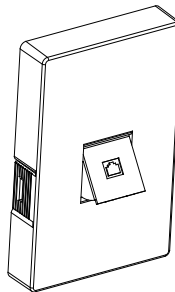

Figure C-3 Keypad protection cover
- ✧ When the keypad of VFDs in T5–T12 frames is externally mounted, the local keypad port is more likely to be exposed to dust and foreign objects. It is recommended to purchase and install a keypad protection cover (Model: GD270-JPFH) to seal the opening, as shown in Figure C-3.